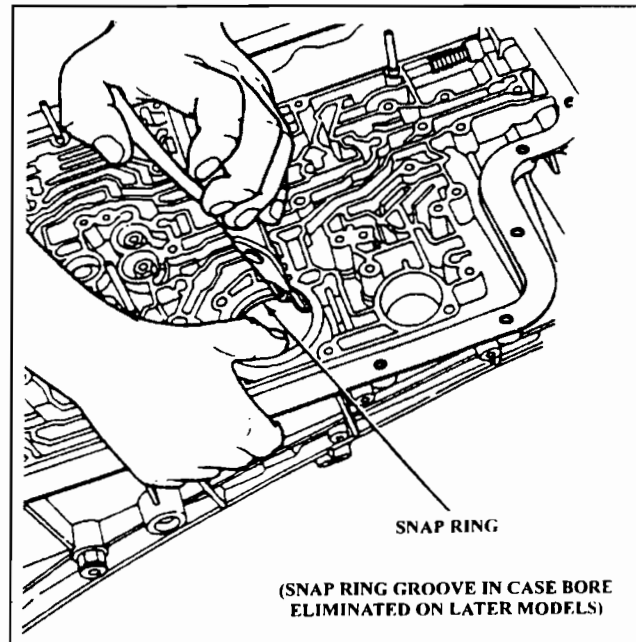

Figure 2
(4) TRANSMISSION CASE-Snap ring groove in case piston bore was eliminated, as it was no longer needed. (see Figure 2)